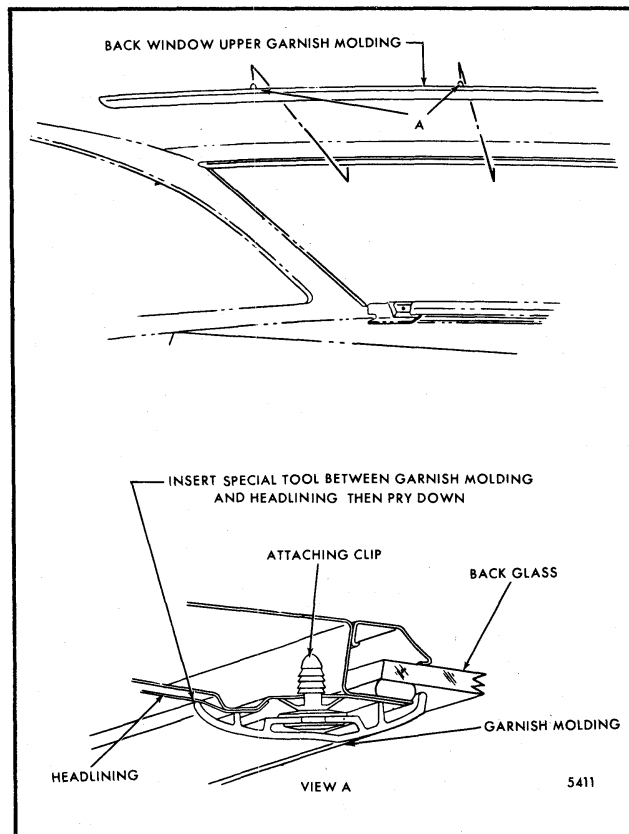

Fig. 8-15-Back Window Upper Garnish Molding - "A" Styles
2. Insert tool BT-7323 or equivalent between headlining and molding, then pry downward to disengage clip and molding (Fig. 8-15).